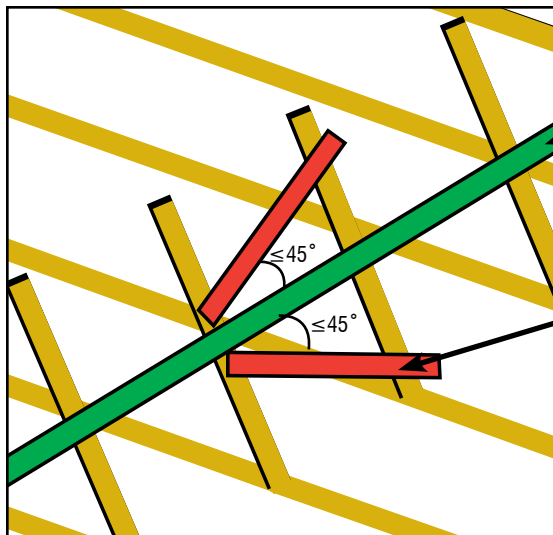

FIGURE B10-32
- ✓ Attach the Lateral Restraint at the locations shown on the TDD together with a Diagonal Brace at an angle of less than or equal to 45° to the Lateral Restraint (see Figures B10-32 and 33). Position the Diagonal Brace so that it crosses the Web in close proximity to the Lateral Restraint. The Diagonal Bracing should be attached as close to the Top and Bottom Chord plane as possible and to each Web that it crosses. This provides rigidity that prevents the Webs from displacing laterally.